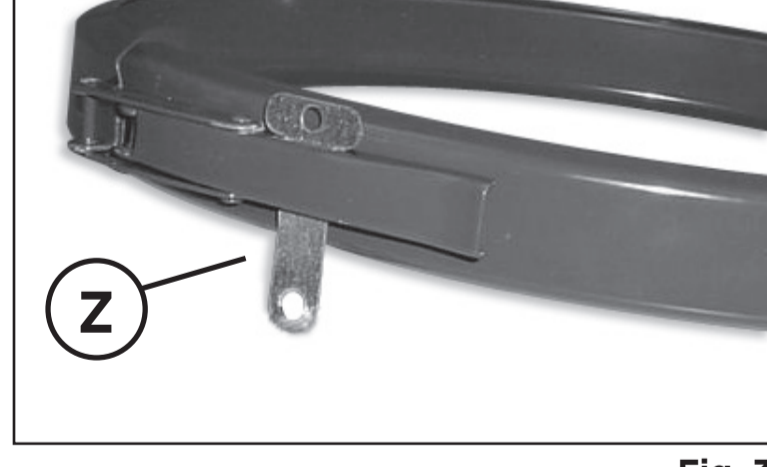

Fig. 3
- Ensure that the lid (G) is securely closed with the lid clamp (O) and the lid O-ring (P) correctly sitting in its seat. **IMPORTANT:** Before applying the lid clamp (O), the lid (G) must be pressed down until the gap between lid and filter case is eliminated. The lid clamp must be latched, with the safety metal lock (Z) inserted correctly inside the latch slot (**Fig. 3**).